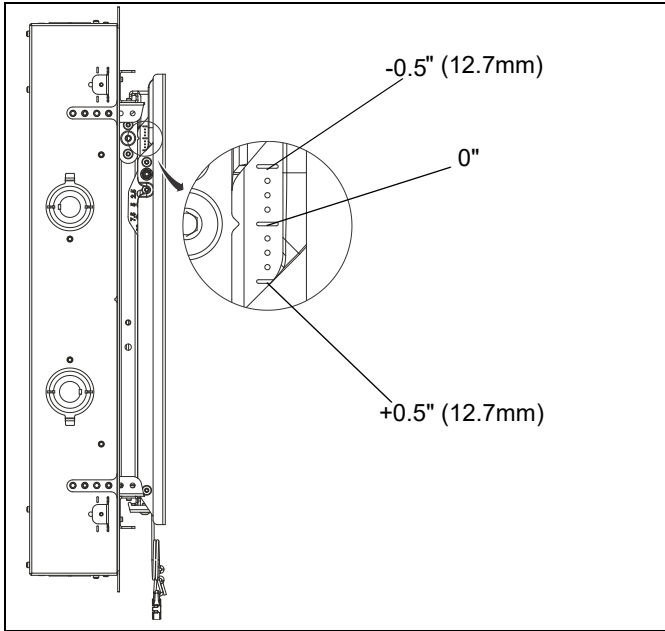

Figure 28
2. Refer to height adjustment markings on side of each interface bracket (A and B) to check adjusted height of each bracket. (See Figure 28)